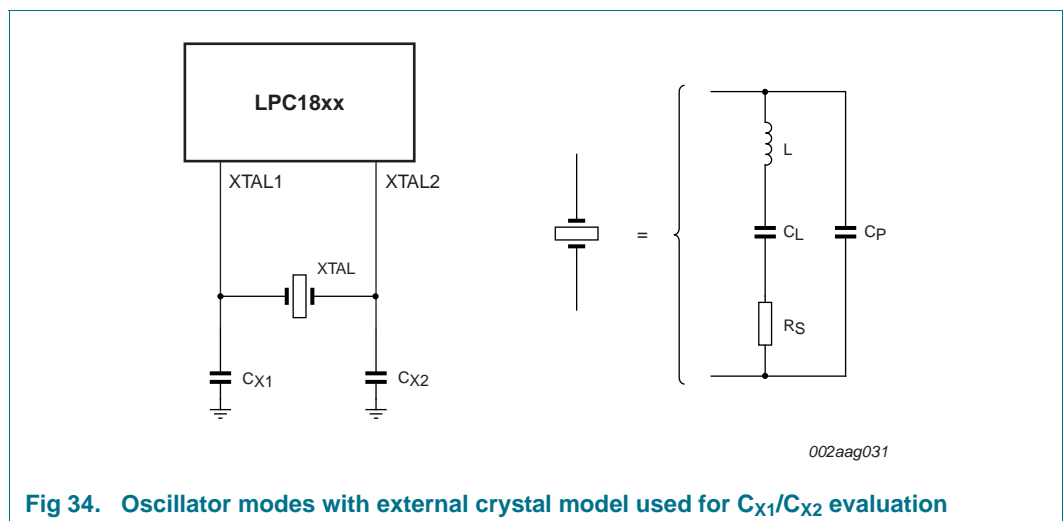

Fig 34. Oscillator modes with external crystal model used for C_{X1}/C_{X2} evaluation
- External components and models used in oscillation mode are shown in Figure 34, and in Table 27 and Table 28. Since the feedback resistance is integrated on chip, only a crystal and the capacitances C_{X1} and C_{X2} need to be connected externally in case of fundamental mode oscillation (L , C_L and R_s represent the fundamental frequency). Capacitance C_P in Figure 34 represents the parallel package capacitance and must not be larger than 7 pF. Parameters F_C , C_L , R_s and C_P are supplied by the crystal manufacturer.